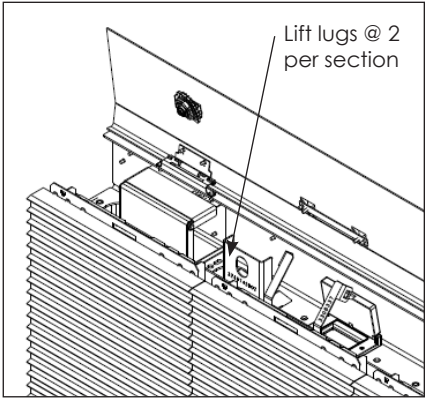

Figure 3: Open Beverage Shroud
2. Open the beverage shroud by rotating upward. Refer to **Figure 3**.